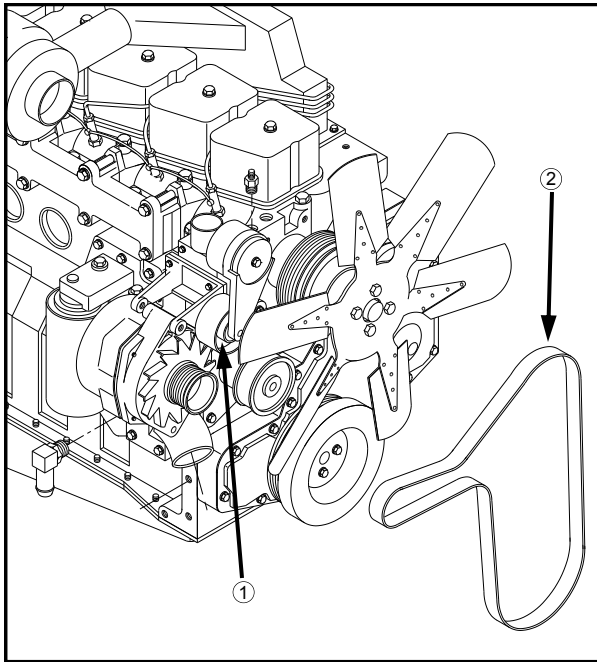

FIG 7.41
REMOVAL - Insert a 3/8 inch square ratchet drive into the belt tensioner (fig. 7.41, item 1) and lift upward to remove the belt (fig. 7.41, item 2).